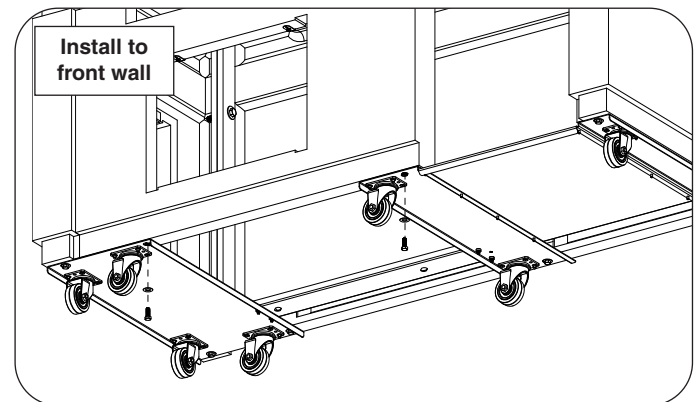

Fig. 3-3 Install wheel assemblies to bottom of front wall
5. Repeat the assembly process for the front wall using the two wheel assemblies as shown in Fig. 3-3.